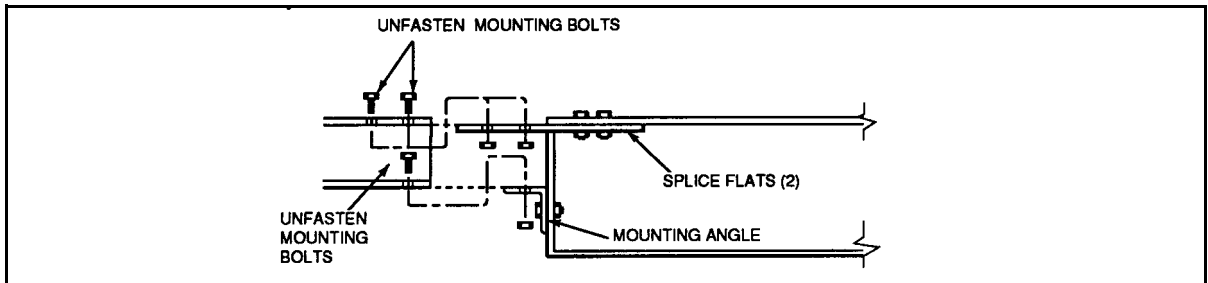

Figure G.49
Step 4. Disconnect the drive unit (or take-up unit) from the curve or junction section by removing bolts and pulling the units apart (see Figure G.49).